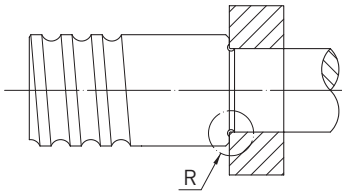
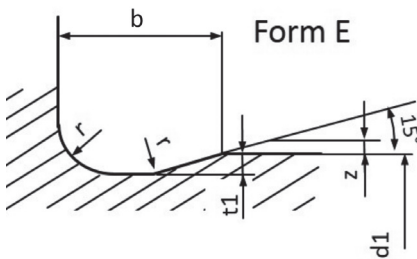

Fig. 3.7 Drain R for bearing housing
Fig. 3.8 Recommended discharge size "R" in Fig. 3.7 referring to DIN 509 typology E
- i) The shank for the fixed bearing must have a drainage groove to allow proper insertion and maintain proper alignment (see Fig. 3.7). HIWIN recommends discharge according to DIN 509 as a standard element (see Fig. 3.8). The screw thread for rolled and peeled shafts generally provides sufficient surface area for the bearing stop. In the worst cases, this striking surface becomes too small, especially where the propeller disappears. This results in a lack of guarantee of the required perpendicularity of the bearing. In such cases, a smaller shank diameter and consequently a smaller bearing or, for peeled or ground shafts, a smooth shaft part, can solve the problem. For rolled shafts, an alternative is the use of rings hot-moulded onto the shanks in order to offer complete surfaces in all cases.